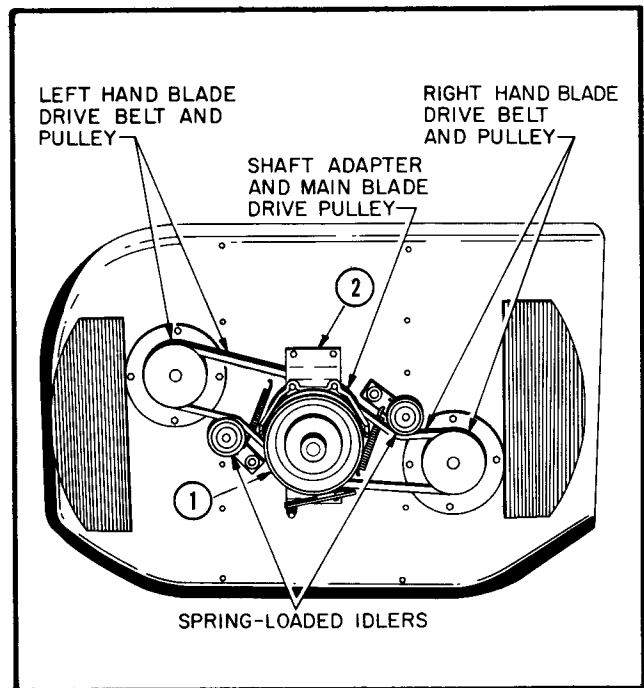

Figure 9. Mower Belt Installation
Remove the mower drive pulley (1, Fig. 9) and the pulley covers from the left and right blade drive pulleys. When removing the center pulley support (2) do not remove the bearing housing (62, Fig. 14). Unhook the springs from the idlers. Spring the belts off the outside pulleys first and then remove them from the center pulley. Replace in the reverse order. Be sure to hook the springs into the idler arms. Replace the pulley covers after the belts have been installed.